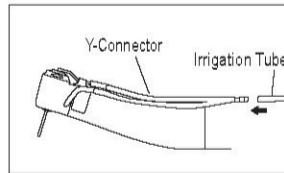

Fig. 9
- Connect the Irrigation Tube to the Y-Connector firmly. (Fig.9)